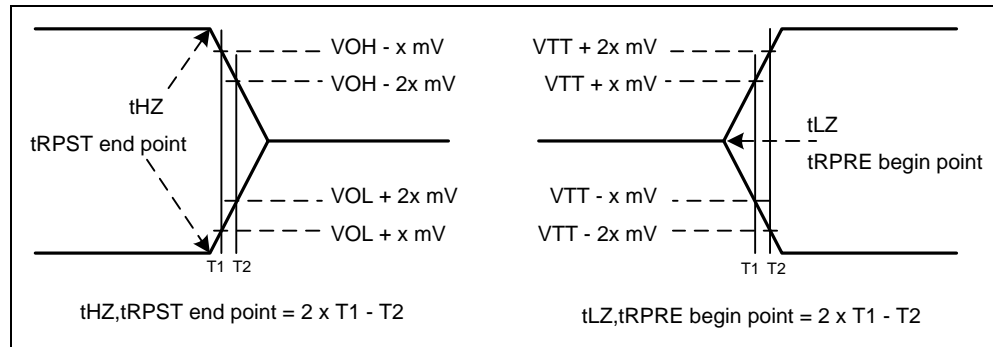

Figure 18 – Method for calculating transitions and endpoints
14.  $t_{RPST}$  end point and  $t_{RPRE}$  begin point are not referenced to a specific voltage level but specify when the device output is no longer driving ( $t_{RPST}$ ), or begins driving ( $t_{RPRE}$ ). Figure 18 shows a method to calculate these points when the device is no longer driving ( $t_{RPST}$ ), or begins driving ( $t_{RPRE}$ ) by measuring the signal at two different voltages. The actual voltage measurement points are not critical as long as the calculation is consistent.
15.  $t_{HZ}$  and  $t_{LZ}$  transitions occur in the same access time as valid data transitions. These parameters are referenced to a specific voltage level which specifies when the device output is no longer driving ( $t_{HZ}$ ), or begins driving ( $t_{LZ}$ ). Figure 18 shows a method to calculate the point when device is no longer driving ( $t_{HZ}$ ), or begins driving ( $t_{LZ}$ ) by measuring the signal at two different voltages. The actual voltage measurement points are not critical as long as the calculation is consistent.  $t_{LZ}(\overline{DQ})$  refers to  $t_{LZ}$  of the  $\overline{DQ}$ 's and  $t_{LZ}(\overline{DQS})$  refers to  $t_{LZ}$  of the ( $\overline{DQS}$ ,  $\overline{RDQS}$ ,  $\overline{RDQS}$ ) each treated as single-ended signal.